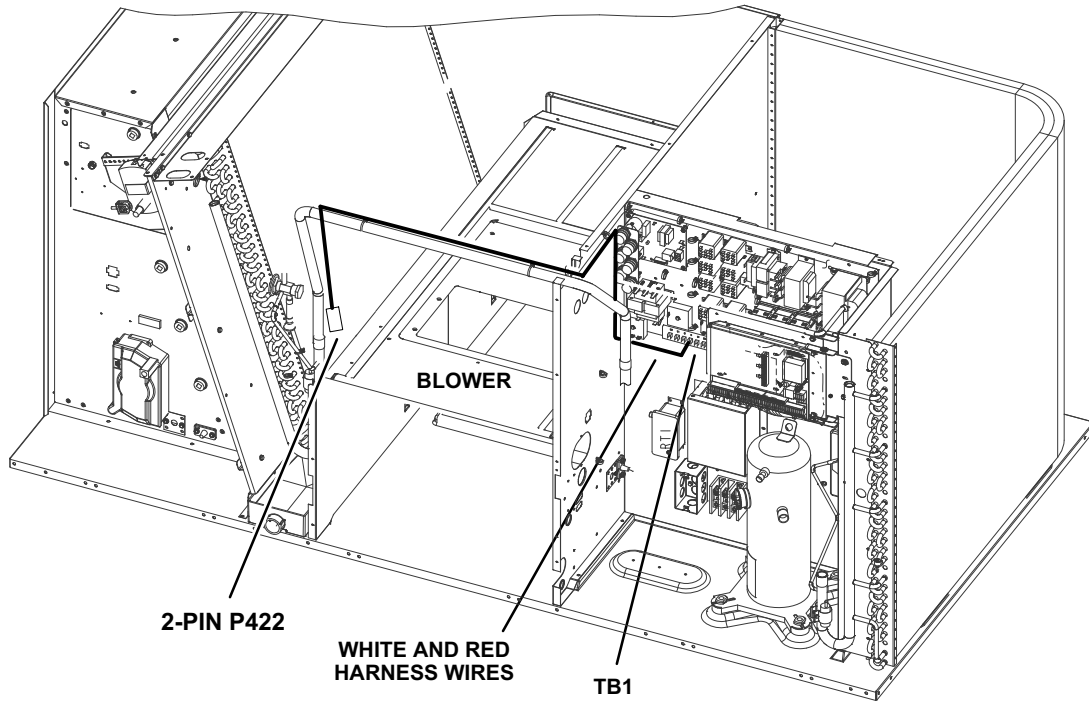

FIGURE 9
- 2- Route the cut wire ends to the control area and the 2-pin plug to the filter or blower section. See figure 9, 10, or 11. Secure with provided wire ties.